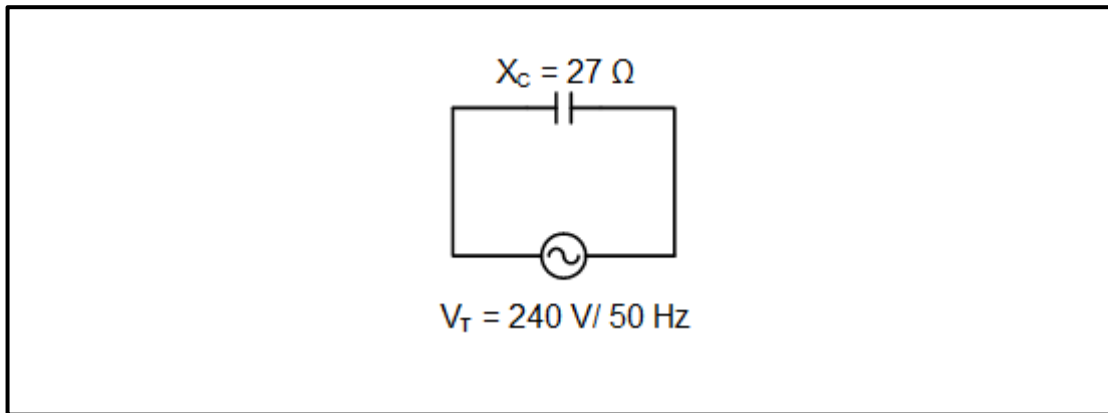

FIGURE 5.1: CAPACITOR CIRCUIT
5.1 FIGURE 5.1 below shows a capacitor connected to a 240 V/50 Hz supply.